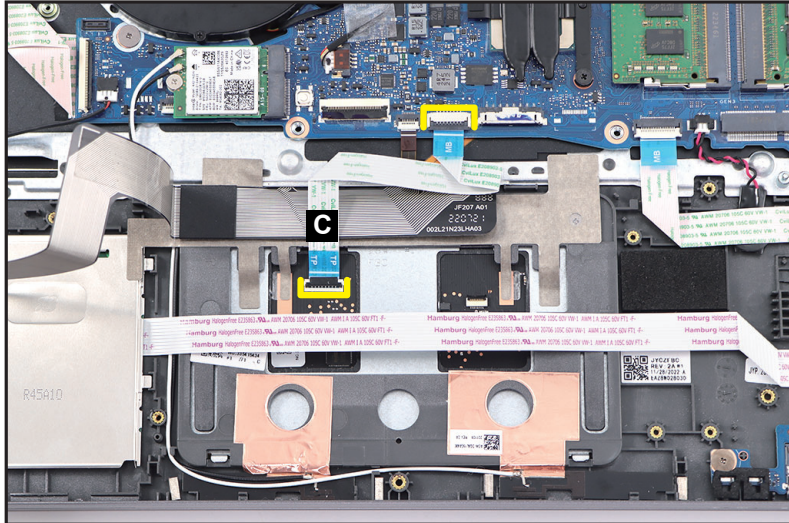

Figure 1-24. Touchpad Module Removal
3. Disconnect the touchpad module FFC (C) from the touchpad and mainboard connectors (Figure 1-24).